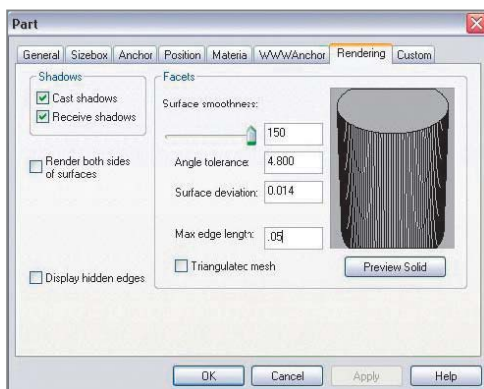

Figure 24. Opening the *Part* dialog box
The *Part* dialog box appears (see Figure 24).
2. Make sure that the *Rendering* tab is displayed (as shown in Figure 24).